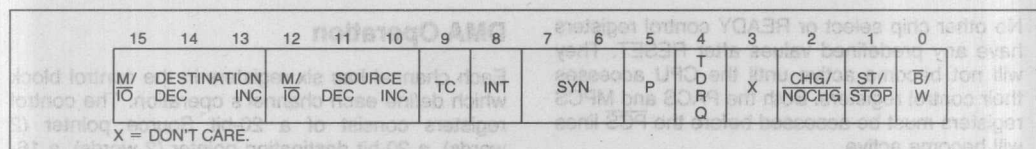

Figure 17. DMA Control Register
Each channel has six registers in the control block which define each channel's operation. The control registers consist of a 20-bit Source pointer (2 words), a 20-bit destination pointer (2 words), a 16-bit Transfer Count Register, and a 16-bit Control Word. The format of the DMA Control Blocks is shown in Table 13. The Transfer Count Register (TC) specifies the number of DMA transfers to be performed. Up to 64K byte or word transfers can be performed with automatic termination. The Control Word defines the channel's operation (see Figure 17). All registers may be modified or altered during any DMA activity. Any changes made to these registers will be reflected immediately in DMA operation.